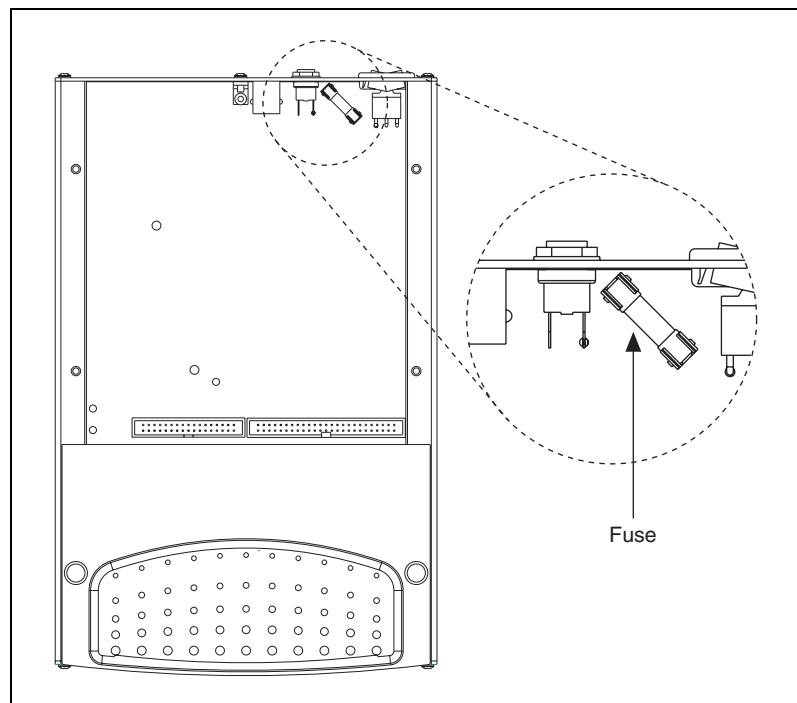

Figure A-14. USB-6251 Fuse Location
2. Replace the fuse while referring to Figure A-14 for the fuse location.